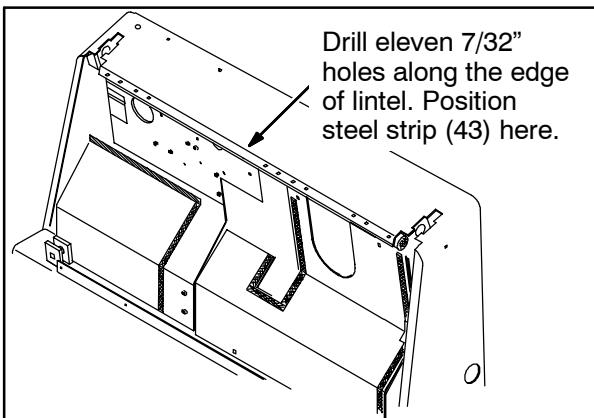
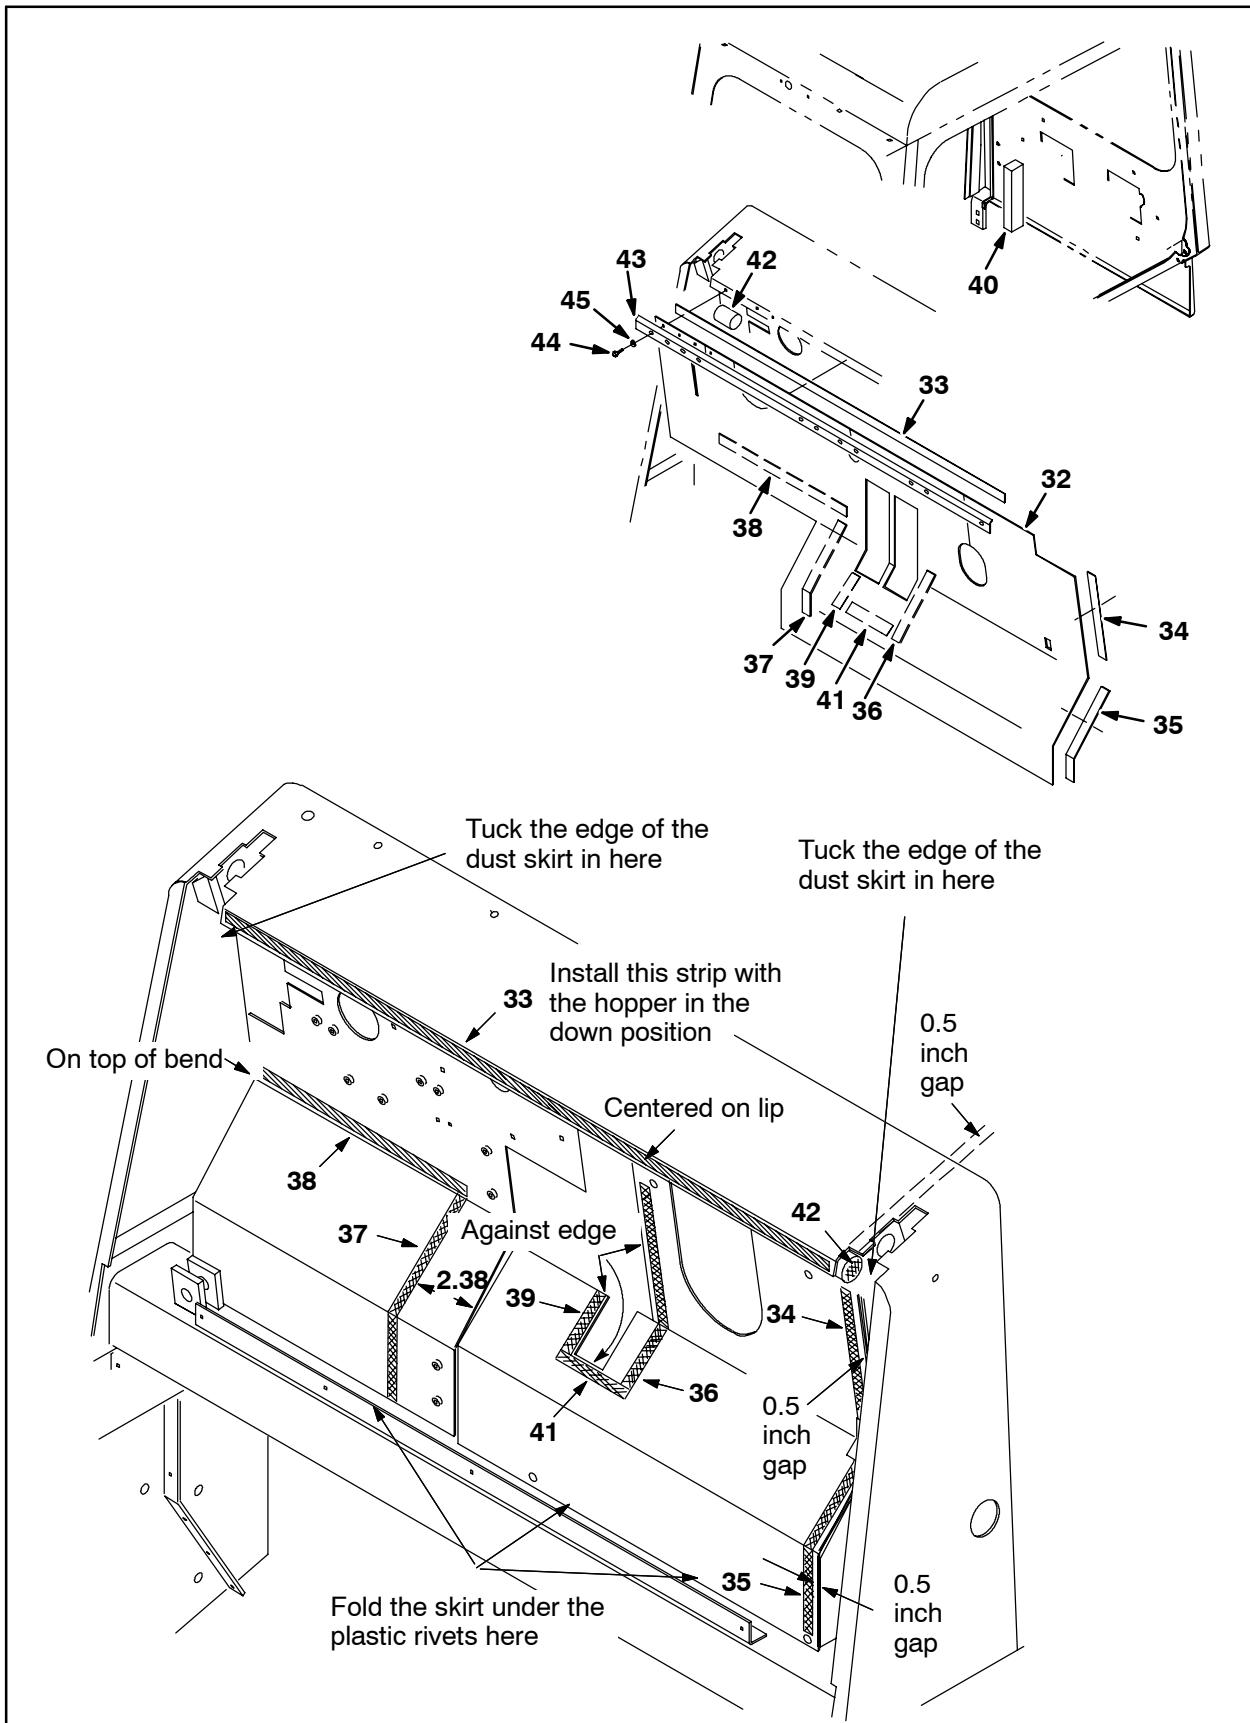

FIG. 8
FIG. 10
NOTE: Refer to Fig. 10 for locations of items installed in Step 1 through Step 14.
4. Install the rest of the strips (34), (35), (36), (37), (38), (39), and (41) onto the machine.
5. Install the round seals (42) up under the lintel lip near the engine side lift arm pin.
7. Place the dust skirt (32) onto the machine and align the strips on the machine with the strips on the dust skirt. First align the hopper lift cylinder with the center slot in the skirt. Work the skirt out toward both sides of the machine and then downward. Firmly push the strips together. Ensure the hopper switch protrudes through the small hole in the right side of the skirt.
8. Fold the bottom of the dust skirt (32) under the plastic rivets near the hopper skirt.
9. Route the wire harness routed from the machine to the hopper through the lift cylinder slit in the dust skirt (32).
10. Route both the large and the small vacuum hoses through the large round opening in the dust skirt (32).
11. Tuck both outside edges of the dust skirt (32) to the inside of the lift arm towers. This prevents the dust skirt from getting in the way when the lift arms are lowered.
12. Disengage the hopper support bar and lower the hopper. Be sure the dust skirt (32) does not get pulled or pinched by the hopper. The dust skirt should be in place along the strip on the front edge of the lintel.
13. Position the steel strip (43) across the front of the lintel and over the top of the dust skirt (32) and strip (33). The curve of the steel strip (43) should match the curve of the lintel. Center the steel strip (43) on the lintel. The steel strip should not hang over either side of the lintel. Refer to Fig. 8 and Fig. 10.
14. Align the holes in the steel strip (43) with the holes in the dust skirt (32). If necessary, adjust the dust skirt to align the holes.
15. Mark and drill eleven mount holes. Use a 7/32" drill bit only. Any other size hole could damage the hex screws (44) installed in the next step. Refer to Fig. 8.
16. Use eleven washers (45) and screws (44) to secure the dust skirt (32) and steel strip (43) onto the machine. Tighten the screws (44) until the dust skirt just starts to deform. Refer to Fig. 10.